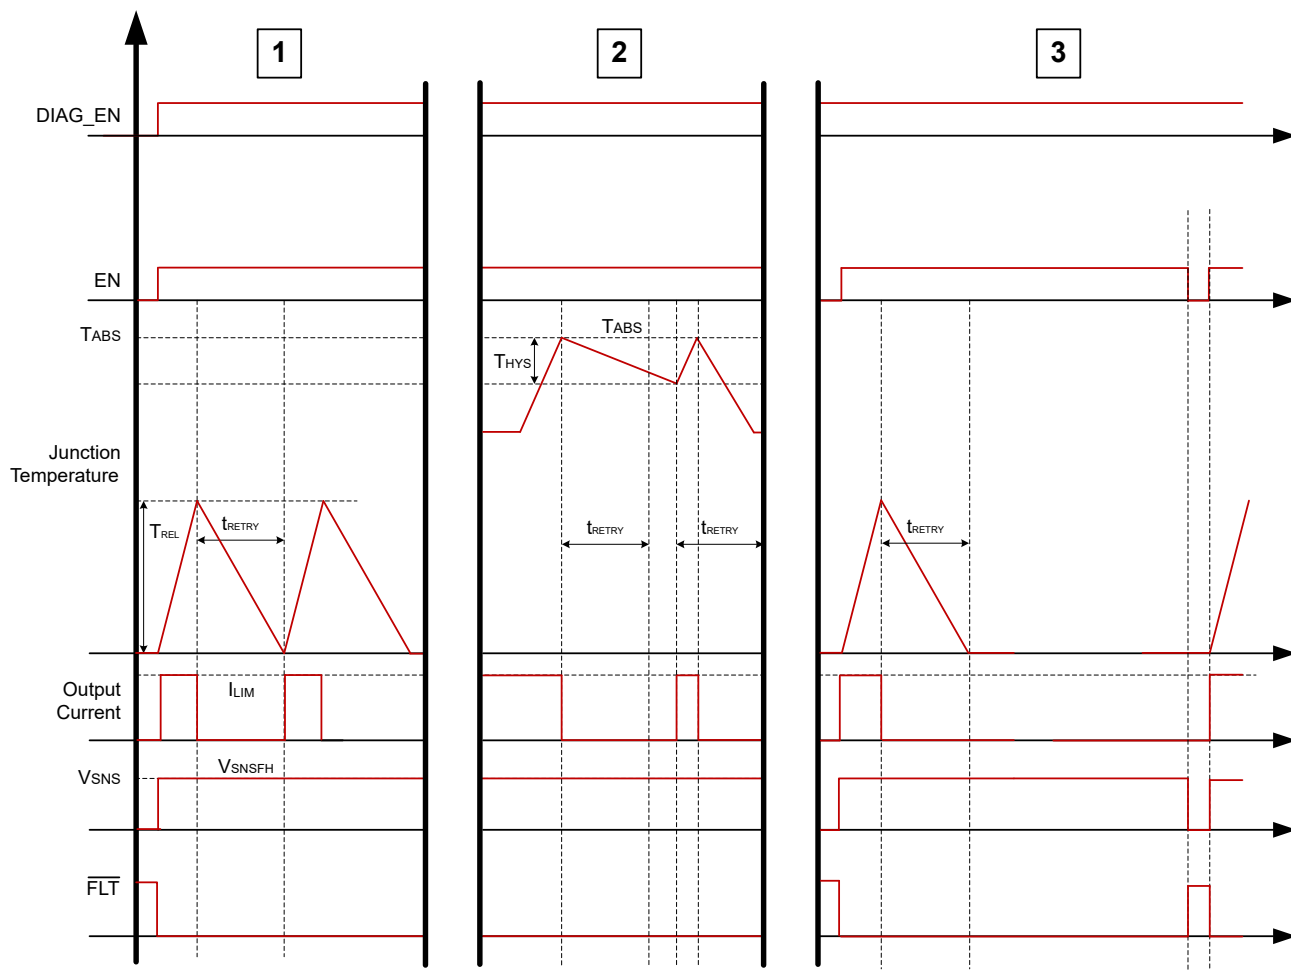

Figure 7-16. Thermal Behavior
The thermal protection behavior can be split up into three categories of events that can occur. Figure 7-16 shows each of these categories.
1. **Relative thermal shutdown:** The device is enabled into an overcurrent event. The output current rises up to the I_{ILIM} level and the $\overline{FLT}$ goes low. With this large amount of current going through the junction temperature of the FET increases rapidly with respect to the controller temperature. When the power FET temperature rises T_{REL} amount above the controller junction temperature $\Delta T = T_{FET} - T_{CON} > T_{REL}$, the device shuts down. For auto-retry version, after t_{RETRY} , the part tries to restart. The latch version requires EN to be toggled to re-enable the channel. The $\overline{FLT}$ pin is asserted until the fault condition is cleared. The first plot in Figure 7-16 shows the relative thermal shutdown behavior for the auto-retry version.
2. **Absolute thermal shutdown:** the device is still enabled in an overcurrent event. However, in this case the junction temperature rises up and hits an absolute reference temperature, T_{ABS} , and then shuts down. For auto-retry version, the device does not recover until both $T_J < T_{ABS} - T_{hys}$ and the t_{RETRY} timer has expired. For latch version, toggling EN is required to re-enable the channel. The second plot in Figure 7-16 shows the absolute thermal shutdown behavior for the auto-retry version.
3. **Latch behavior:** the device is enabled into an overcurrent event. The DIAG_EN pin is high so that diagnostics can be monitored on SNS and FLT. For the latched version of the device, if the part shuts down due to a thermal fault, either relative thermal shutdown or absolute thermal shutdown, the device does not enable the channel until the EN pin is toggled. The third plot in Figure 7-16 shows the relative thermal shutdown behavior for the variants with LATCH pin when LATCH pin is HIGH.